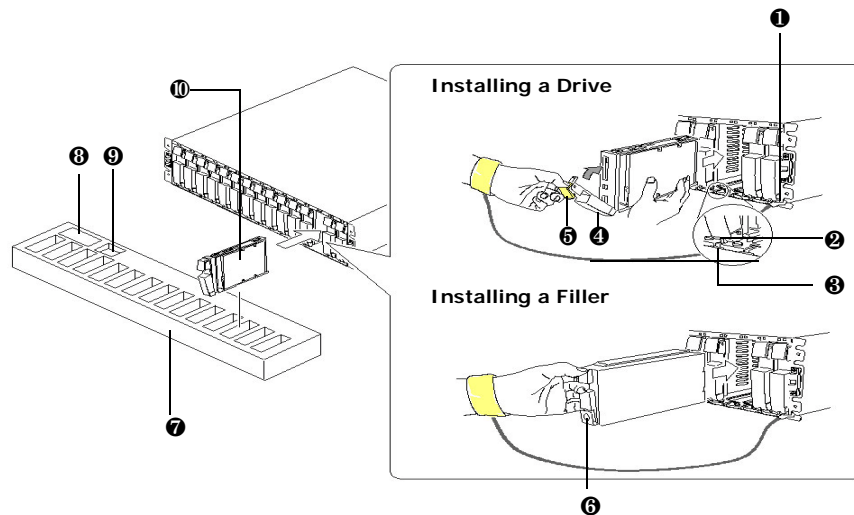

Figure 1-3: Installing a Drive or Drive Filler
- h. Place the drive on the slot's guide rail, then gently slide the drive into the slot (shown by the arrow in Figure 1-3). Stop pushing when the blue lever at the top of the drive tray starts to rise.